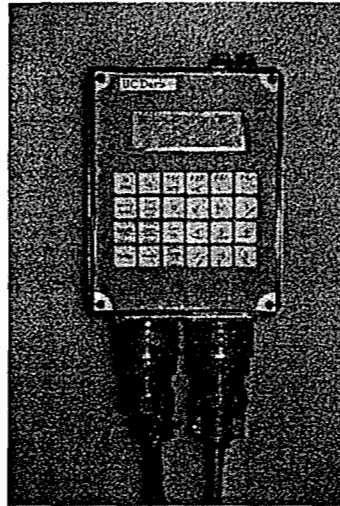

Figure 2.7.1: Hand Controller
2.7.1 Retrieve the Hand Controller (Figure 2.7.1) and attach the cables. The larger cable attaches to the left plug.